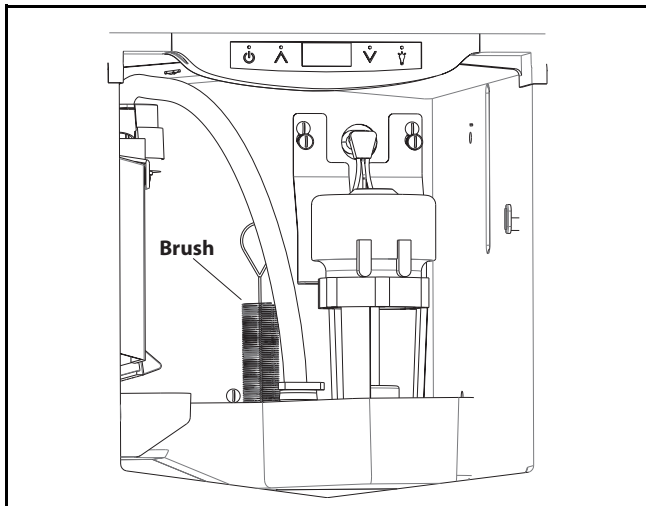

Figure 23
- Using a bottle brush, clean out the trough drain tube and pump tubing where needed (**Figure 23**).